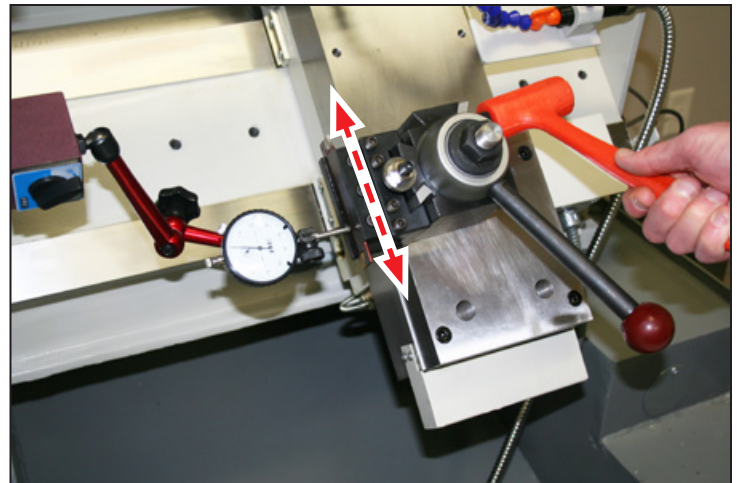

Figure 10
11. Attach magnetic dial test indicator to spindle. Position indicator tip against tool face. Power up lathe and move carriage back and forth on X-axis against indicator tip (see **Figure 10**).
12. To correct Tool Post misalignment, tap with dead-blow hammer to adjust, as necessary (see **Figure 10**). Repeat Steps 11 and 12 until suitable alignment is achieved.